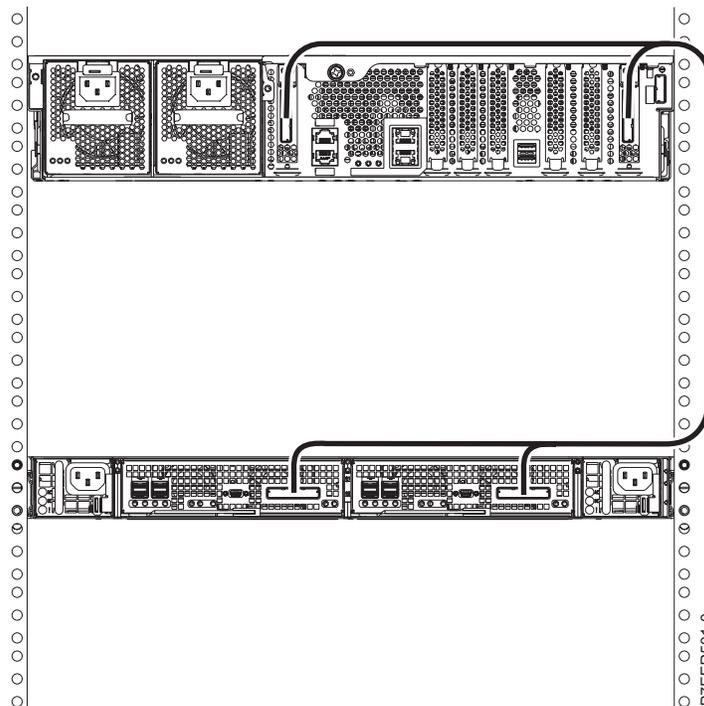

Figure 19. One ED/R1 PCIe storage enclosure connected to an 31E/1D or 31E/2D system by using two FC EJ0H PCIe2 GX++ adapters and two PCIe cables
Figure 19 shows an example of connecting an ED/R1 PCIe storage enclosure to an 31E/1D or 31E/2D system by using two feature code (FC) EJ0H PCIe2 GX++ adapters and two PCIe cables.